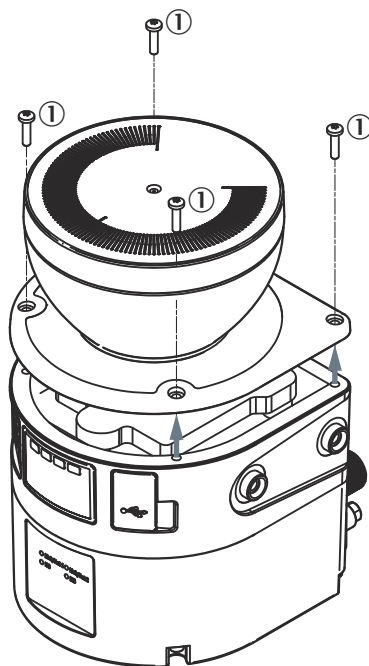

Figure 85: Fixing screws for the optics cover
13. Screw in new fixing screws, see figure 85, page 144.